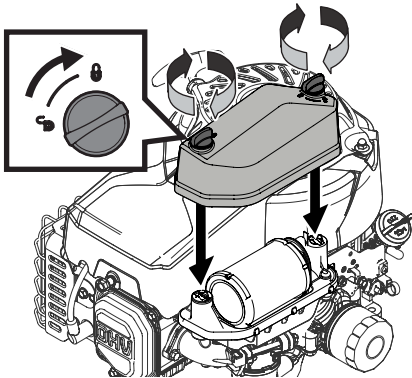

Figure 15
7. Attach the air filter cover (Figure 15). Turn thumb screws clockwise 1/4 turn until snug. Check for any misalignment.